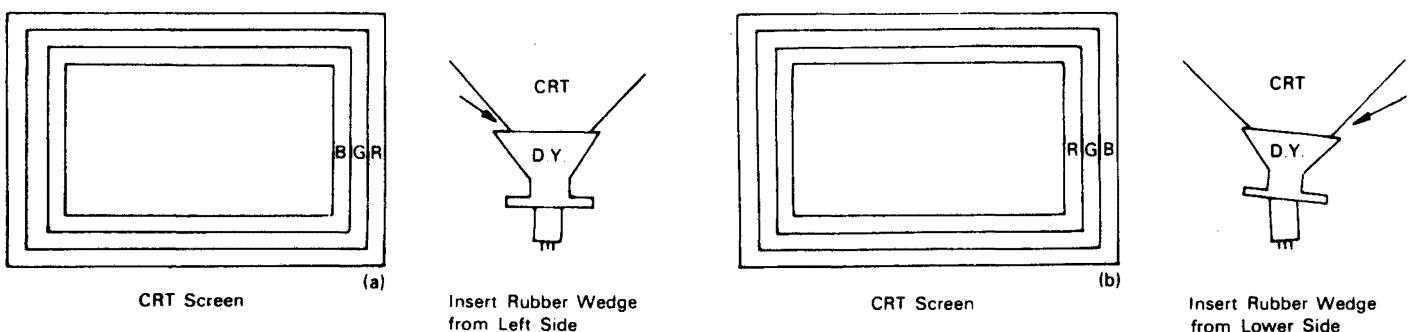

FIGURE 11
2) Tilting the angle of the yoke sideways adjusts the parallel convergence of both horizontal and vertical lines at the edges of the screen. See Fig. 11-a and b.